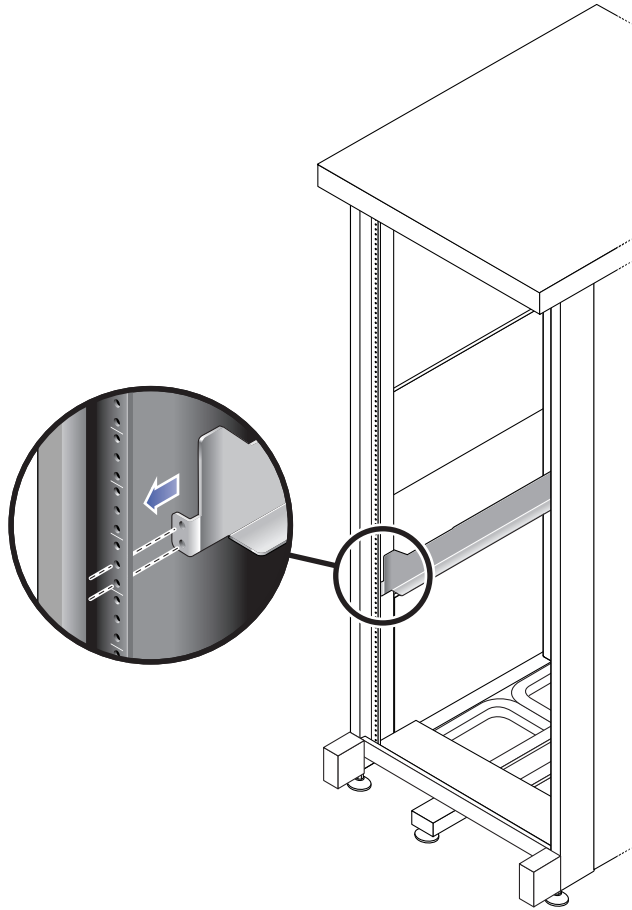

FIGURE 2-6 Positioning the Front of the Left Rail Behind the Left Front Cabinet Rail
- a. Position the front of the rail directly inside the front cabinet rail** (FIGURE 2-6).